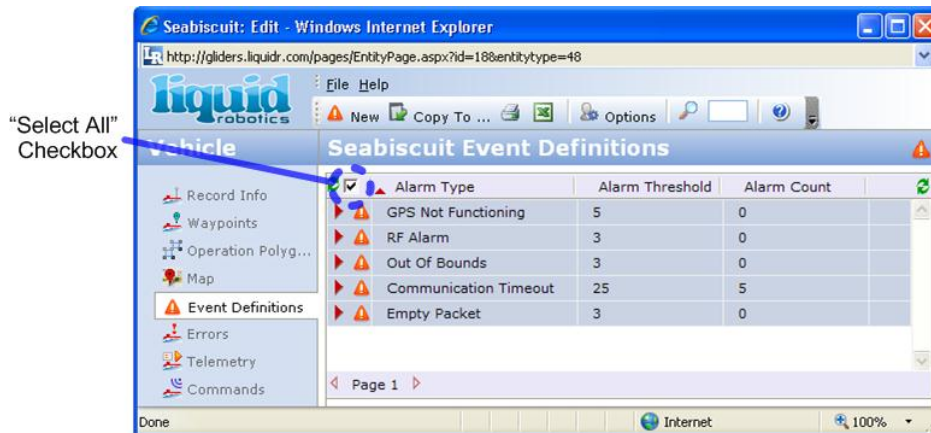

Figure 4-15: Event Definitions Copy Dialog
- 3) On the left side, click on the "Event Definitions" tab to bring up the dialog for event definitions. The box should be similar to Figure 4-15.
Note: There may be more Alarm Types than shown in the above Figure 4-15. However, the five shown are considered the "minimum set" necessary.